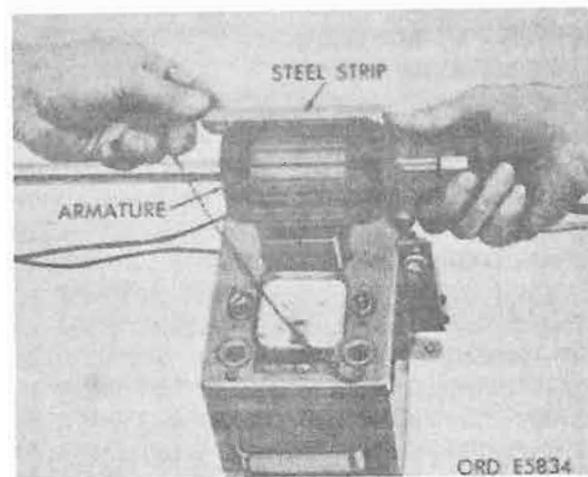

Figure 7-15. Testing armature for shorts.
(4) Test armature for shorts as shown in figure 7-15. Place armature on growler, following instructions of manufacturer of test equipment. Hold thick steel strip on core and rotate armature slowly through one complete revolution. Short will be indicated by steel strip becoming magnetized and vibrating. Discard armature if shorted.
(5) Test armature for opens, following instructions of the manufacturer of the test equipment.